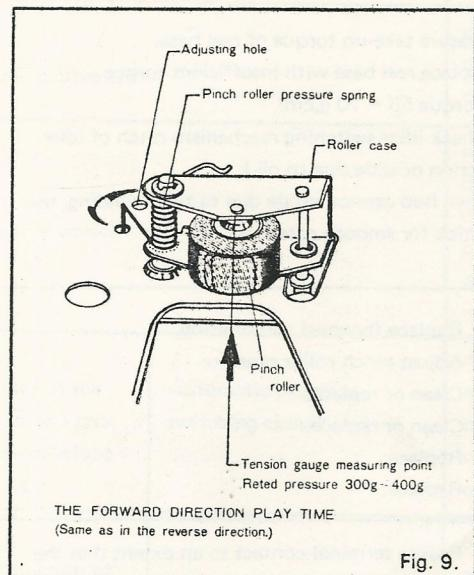

Fig. 9.
* Adjustment of pinch roller pressure (Refer to Fig. 9)